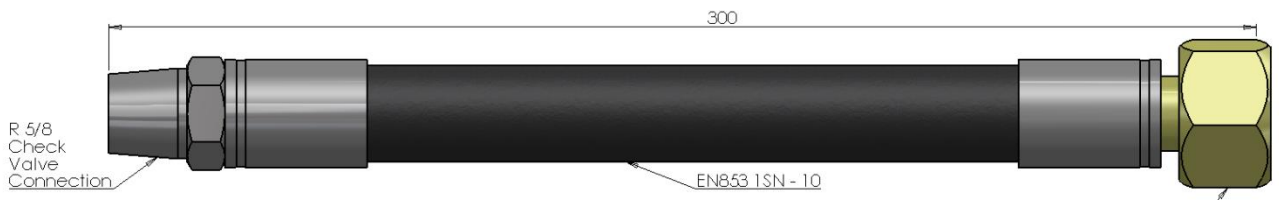

Figure 5.8.2 - Flexible Discharge Hose
- Attach the Pressure Controller to the discharge valve outlet using the swivel nut A shown on Fig 5.8.2 using a 30mm A/F open ended spanner (ensure that the plastic seal is in place before attachment). **Ensure the seal is still present inside the female connection for connection 'A' on the pressure controller**
- Screw the free end of the discharge hose (36mm A/F) onto the pressure controller via connection B (Figure 5.8.2).